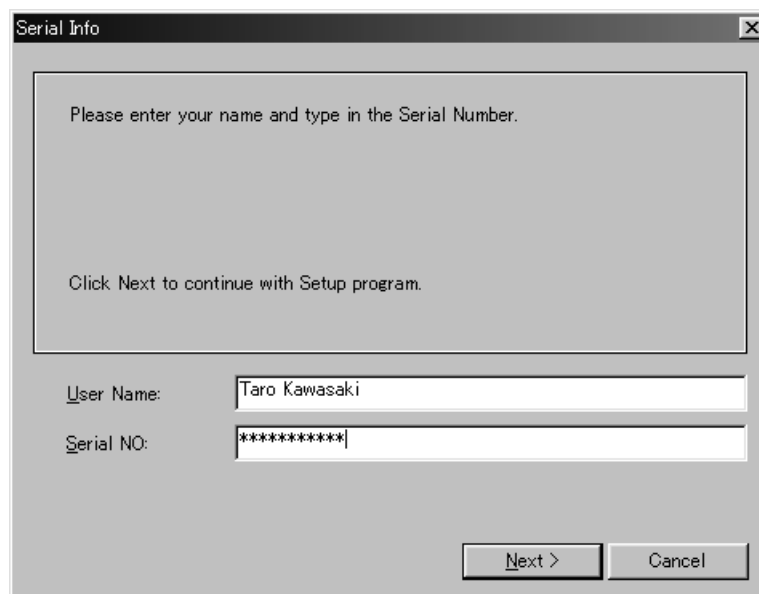

Fig. 5 User Information Registration / Authentication (Sample)
(9) Next the Serial Information screen shown in Fig.5 appears.